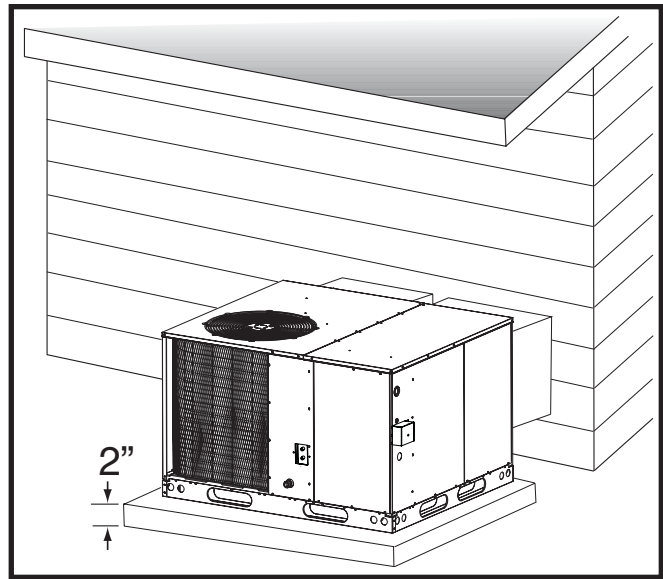

Figure 2. Typical Ground Level Installation
- A suitable mounting pad must be provided and separate from the building foundation. The pad must be level to ensure proper condensate disposal and strong enough to support the unit's weight. The slab height must be a minimum of 2" (5cm) above grade and with adequate drainage. See Figure 2.